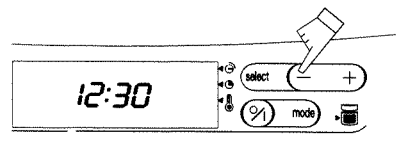

Fig. 2
2. Press the  touch controls (fig. 2) to set the time of day.
2. Press the “mode” touch control, and press once until the type of cooking selected at a time appears. (For example “conventional”) (fig. 2).